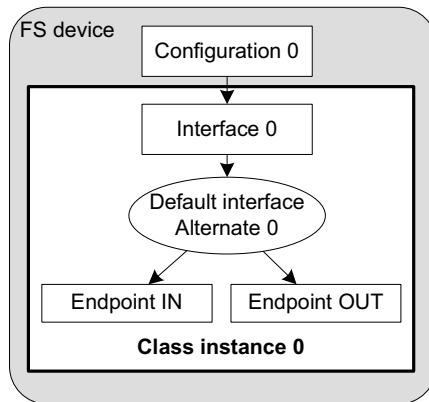
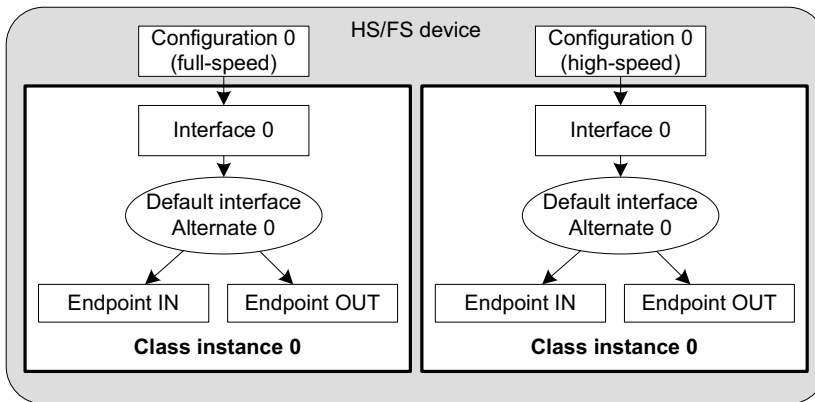
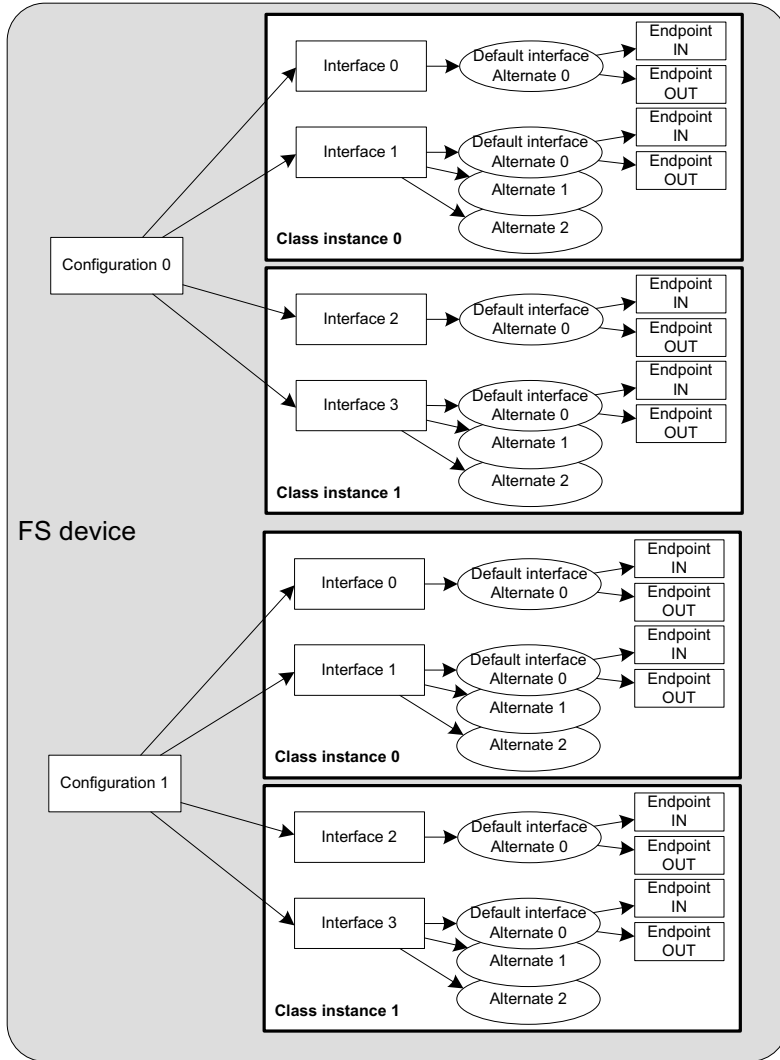

Figure 7-1 **Multiple Class Instances - FS Device (1 Configuration with 1 Interface)**
Figure 7-2 Multiple Class Instances - HS/FS Device (2 Configurations and 1 Single Interface)
Figure 7-3 Multiple Class Instances - FS Device (2 Configurations and Multiple Interfaces)
The following illustrations present several case scenarios. Each illustration is followed by a code listing showing the code corresponding to the case scenario. Figure 7-1 represents a typical USB device. The device is Full-Speed (FS) and contains one single configuration. The function of the device is described by one interface composed of a pair of endpoints for the data communication. One class instance is created and it will allow you to manage the entire interface with its associated endpoint.
The code corresponding to Figure 7-1 is shown in Listing 7-1.
- L7-1(1) Initialize the class. Any internal variables, structures, and class Real-Time Operating System (RTOS) port will be initialized.
- L7-1(2) Create the class instance, `class_0`. The function `USB_D_XXXX_Add()` allocates a class control structure associated to `class_0`. Depending on the class, besides the parameter for an error code, `USB_D_XXXX_Add()` may have additional parameters representing class-specific information stored in the class control structure.
- L7-1(3) Add the class instance, `class_0`, to the specified configuration number, `cfg_0`. `USB_D_XXXX_CfgAdd()` will create the interface 0 and its associated endpoints IN and OUT. Hence, the class instance encompasses the interface 0 and its endpoints. Any communication done on the interface 0 will use the class instance number, `class_0`.
Figure 7-2 represents an example of a high-speed capable device. The device can support High-Speed (HS) and Full-Speed (FS). The device will contain two configurations: one valid if the device operates at full-speed and another if it operates at high-speed. In each configuration, interface 0 is the same but its associated endpoints are different. The difference will be the endpoint maximum packet size which varies according to the speed.
The code corresponding to Figure 7-2 is shown in Listing 7-2.
In the case of the high-speed capable device presented in Figure 7-2, in order to enable the use of *Device\_Qualifier* and *Other\_Speed\_Configuration* descriptors, the function `USBD_CfgOtherSpeed()` should be called during the  $\mu$ C/USB-Device initialization. Listing 2-5 presents the function `App_USBD_Init()` defined in `app_usbd.c`. This function shows an example of the  $\mu$ C/USB-Device initialization sequence. `USBD_CfgOtherSpeed()` should be called after the creation of a high-speed and a full-speed configurations with `USBD_CfgAdd()`. Listing 7-3 below shows the use `USBD_CfgOtherSpeed()` based on Listing 2-5. Error handling is omitted for clarity.
Figure 7-3 represents a more complex example. A full-speed device is composed of two configurations. The device has two functions which belong to the same class. Each function is described by two interfaces. Each interface has a pair of bidirectional endpoints. In this example, two class instances are created. Each class instance is associated with a group of interfaces as opposed to Figure 7-1 and Figure 7-2 where the class instance was associated to a single interface.
The code corresponding to Figure 7-3 is shown in Listing 7-4. The error handling is omitted for clarity.
You can refer to section 5-4 “Configuration Examples” on page 71 for some configuration examples showing multiple class instances applied to composite devices. Composite devices use at least two different classes provided by the  $\mu$ C/USB-Device stack. The section 5-4-2 “Composite High-Speed USB device” on page 73 gives a concrete example based on Figure 7-2. See section 5-4-3 “Complex Composite High-Speed USB device” on page 74 for a hybrid example that corresponds to Figure 7-2 and Figure 7-3.